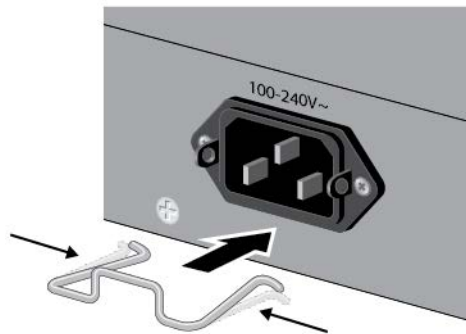

Figure 52. Installing the Power Cord Retaining Clip
1. Install the power cord retaining clip on the AC power connector on the rear panel of the switch. Refer to Figure 52.